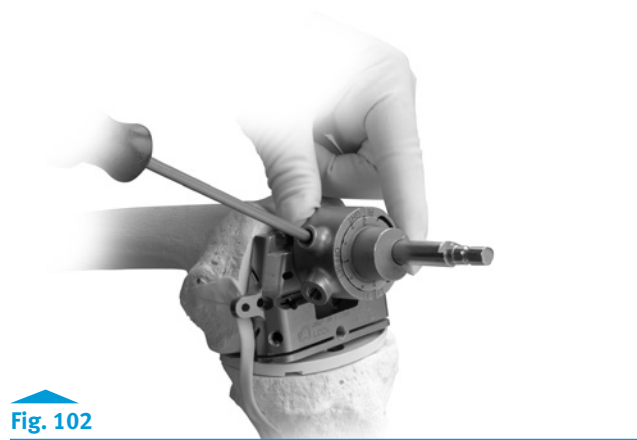

Fig. 102
- Use the 3.5mm Hex-head Screwdriver to tighten the adapter to the bushing (Fig. 102). This locks in the offset setting for future reference.